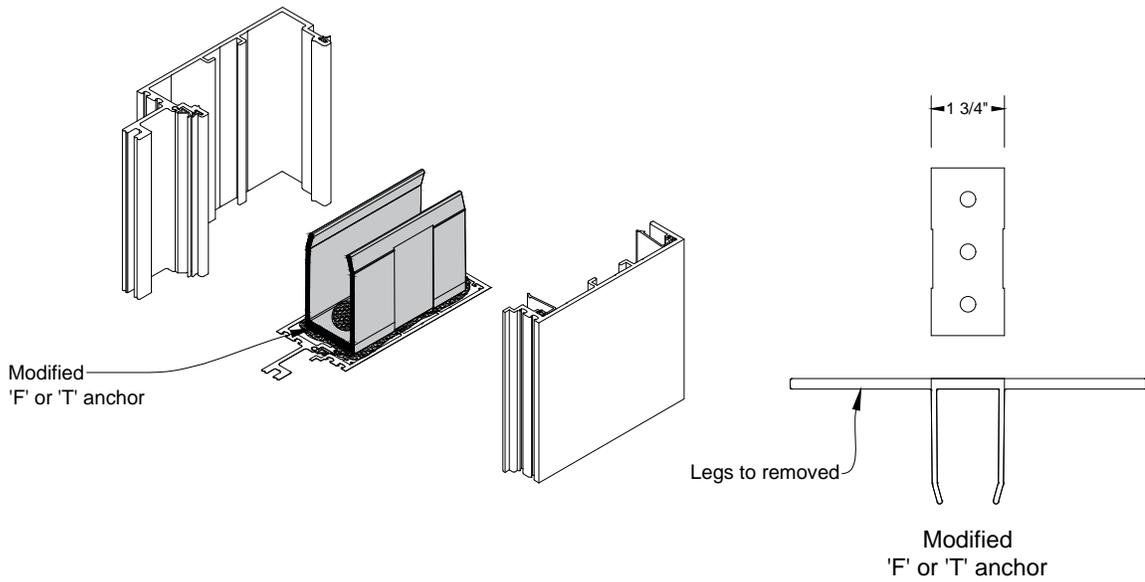

Fig. 70.1
- B. Curtain wall verticals and door sub frames run to floor. Bed verticals in sealant and anchor to building per approved shop drawings. See Fig. 70.1 for possible anchoring method.